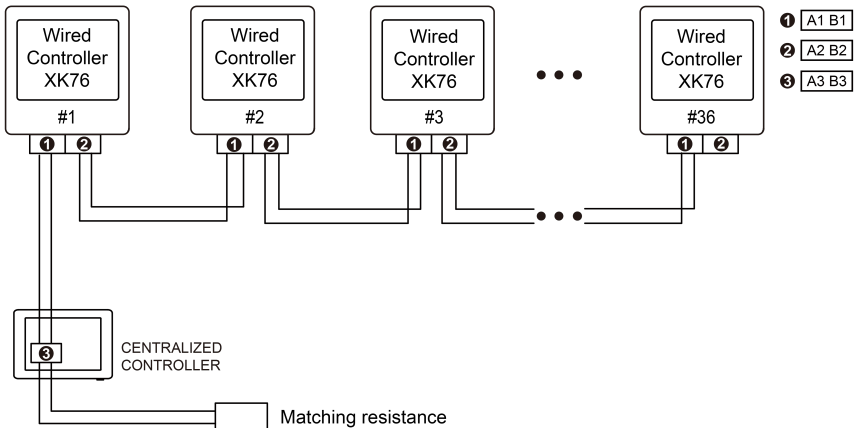

Fig.3.10 Centralized Controller Connected with Wired Controller XK76
- (1) The connection sketch map of control system is shown by the fig. 3.10.